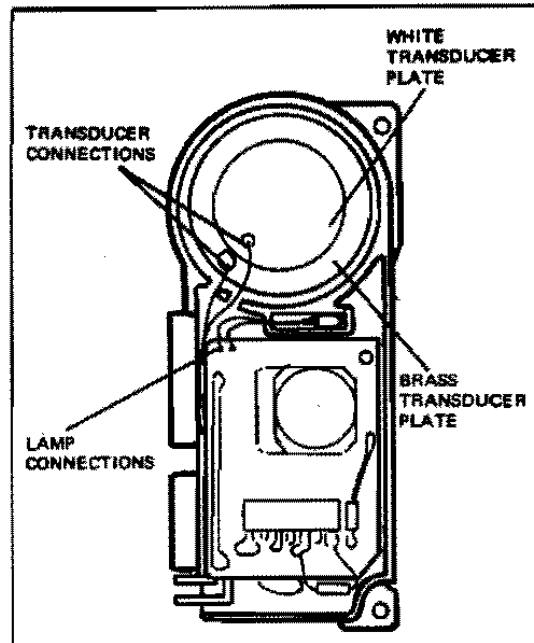

FIG. 4-12 INSTALLING THE TRANSDUCER AND LAMP
1. Apply silicone rubber cement on the new transducer and secure it to the timer body (Figure 4-12).
Solder the new lamp leads to the chassis (see Figure 4-12).